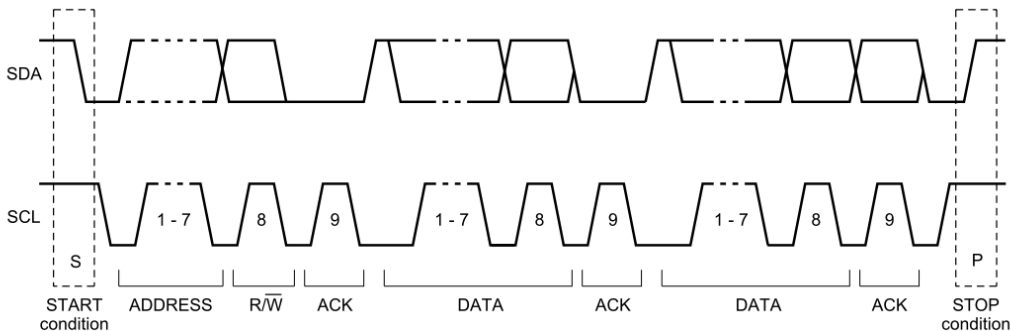

Figure 45. An Example of I²C Data Transfer
The RT8848D features an I²C interface to allow users to adjust various operating parameters. The supported operating parameters that can be adjusted through I²C communication are summarized in the register tables below. The data transfers follow the format shown in Figure 45. After the START condition (S), a slave address is sent. A data transfer is always terminated by a STOP condition (P) generated by the master. However, if a master still tries to communicate on the bus, it can generate a repeated START condition (Sr) and address another slave without first generating a STOP condition. Various combinations of read/write formats are then possible within such a transfer.